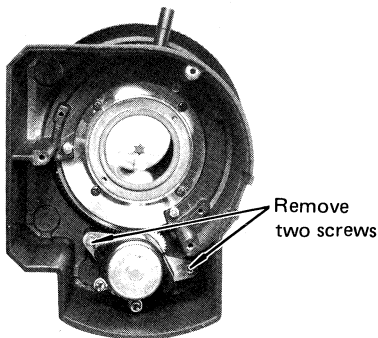

Fig. 3-5-6
- Remove two screws which hold the zoom motor assembly and remove the zoom motor assembly. (Fig. 3-5-6)